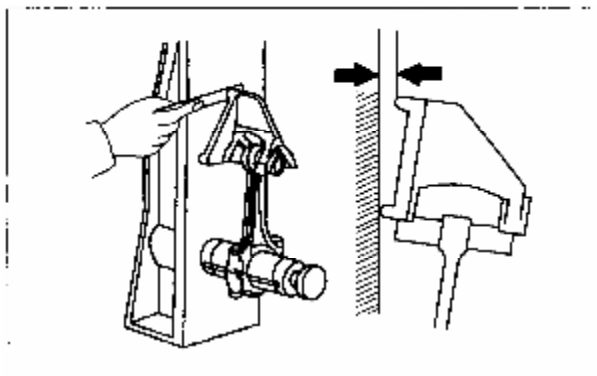
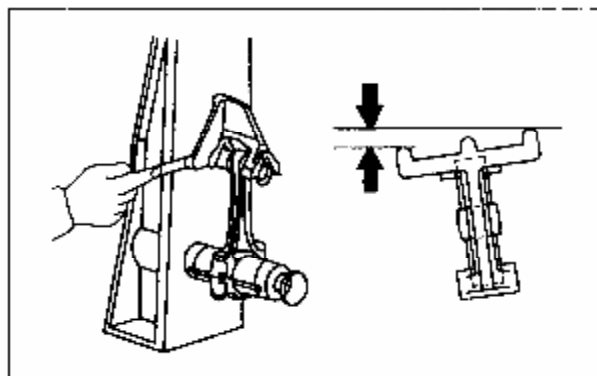

Figure 3-30 Check Bending Extent of Connecting Rod with a Connecting Rod Corrector
Figure 3-31 Check Distortion of Connecting Rod
3.3.3 Check bending extent (see Figure 3-30) and distortion (see Figure 3-31) of connecting rod with a connecting rod corrector. Maximum bending extent: 0.05mm for every 100mm; maximum distortion: 0.05mm for every 100mm. If bending extent or distortion exceeds the maximum value, replace the connecting rod.